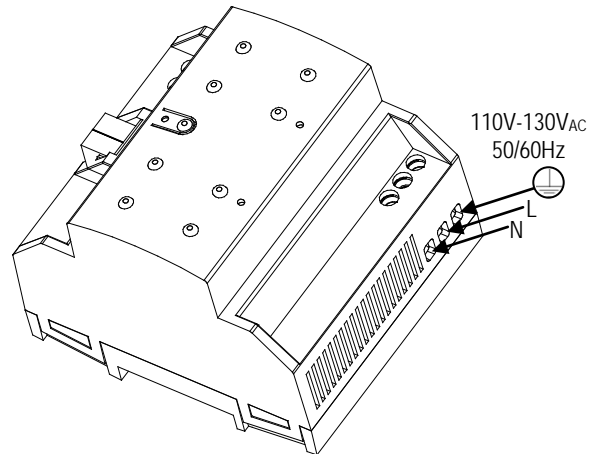

Figure 2: ZPS640MPA110 installation and connection
- Main power must be connected to L, N and ground terminals, in accordance with the schematic represented in figure 2.